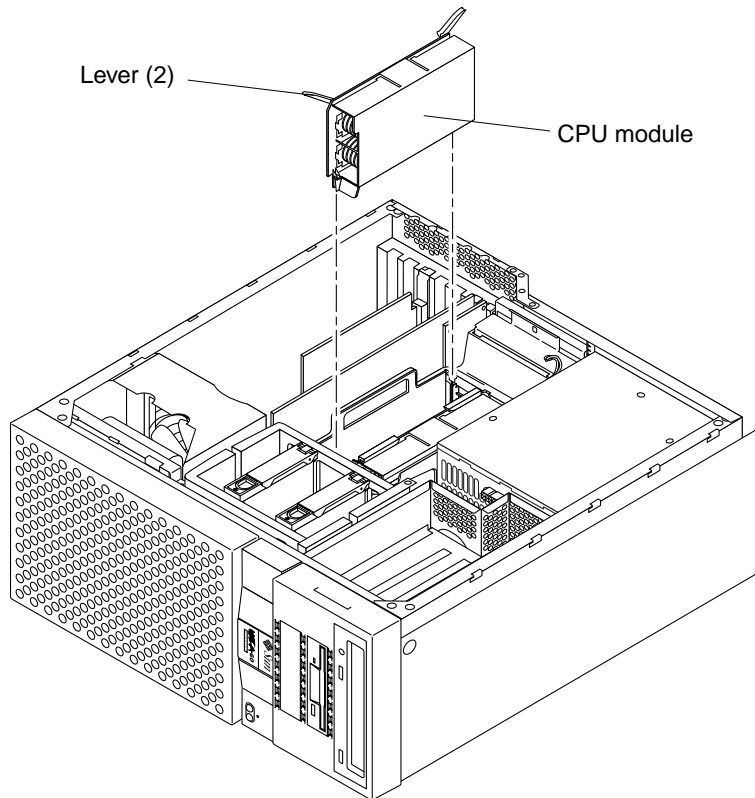

FIGURE 10-1 Removing and Replacing the CPU Module
4. Remove the CPU module as follows (FIGURE 10-1):
1. **Replace the CPU module as follows (FIGURE 10-1):**